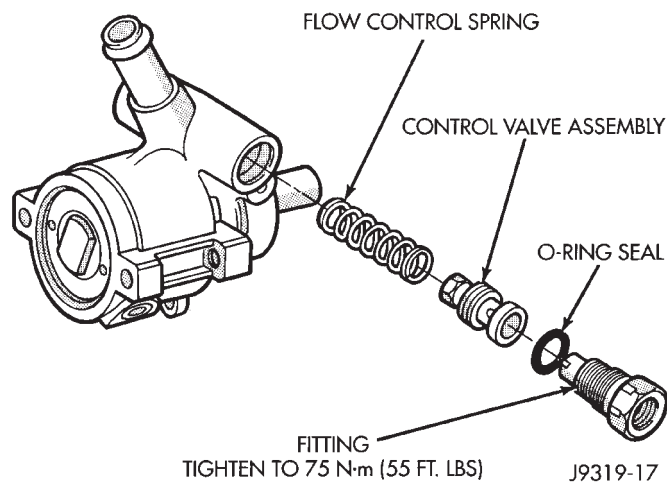

Fig. 8 Flow Control Valve
- (1) Clean area around fitting to prevent dirt from entering pump. Remove pressure hose from pump fitting.
- (2) Remove fitting from pump housing (Fig. 8). **Prevent flow control valve and spring from sliding out of housing bore.**